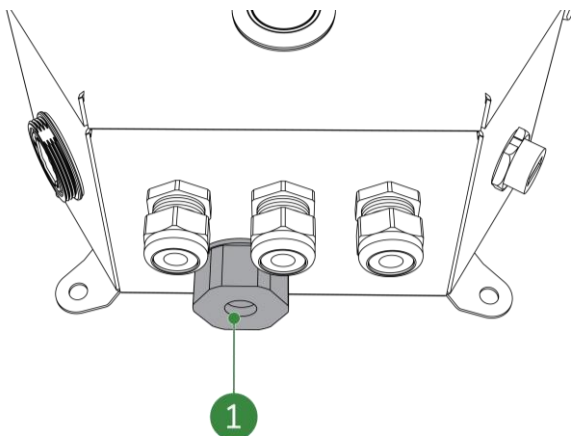

Figure 5-24: Split cable gland for ethernet cable
1. Remove the split cable gland for ethernet cable (Figure 5-24, pos. 1) from the HMI by unscrewing it.
11. Tighten the split cable gland for ethernet cable (Figure 5-24, pos. 1) to prevent moisture and dirt entering the HMI.